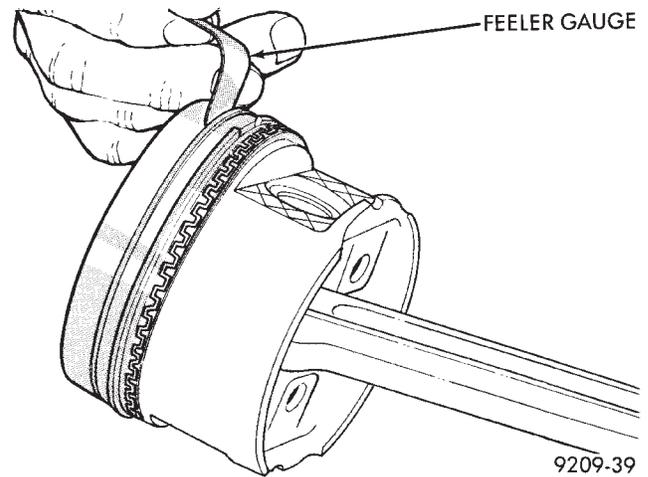

Fig. 10 Measuring Piston Ring Groove Clearance
(2) Check piston ring to groove clearance: (Fig. 10). Refer to specification (Fig. 11).